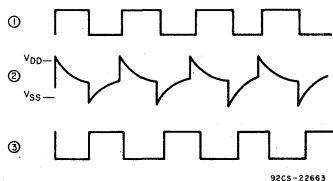

Fig. 2—RC-oscillator operating waveforms.
RCA COS/MOS parts, i.e., CD4007A, CD4001A, CD4011A, etc.) and a single resistor and capacitor. The operating waveforms for this circuit are shown in Fig. 2.
increasing or decreasing with discontinuities equal in magnitude to  $V_{DD}$  during the instant of switching. However, since point (2) is protected by a standard input-protection circuit common to COS/MOS devices, the waveform is clamped at one diode voltage drop above  $V_{DD}$  and below  $V_{SS}$ . (Refer to waveforms in Figs. 2 and A1). The calculations for the period of this multivibrator circuit are shown in Appendix A; the final equation for the period T is